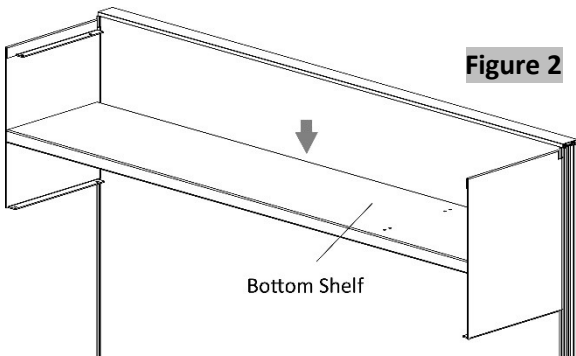

Figure 2
4. Position the bottom shelf at desired position, (Figure 2).